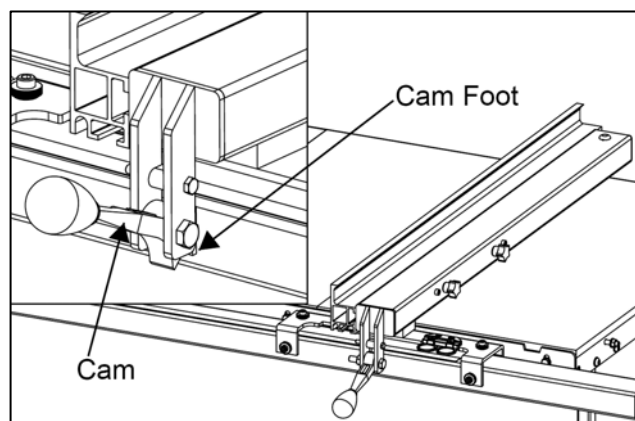

Fig. 10
2. Install the fence on the rail on the right hand side of the blade as shown in Fig. 10.
Make sure the cam foot contacts the cam on the fence lock handle before you place the fence on the rail, otherwise the fence can not be placed well (Fig. 10).
If you need to use the fence on the left side of the blade, remove the knobs (A), as shown in Fig.10, and move the fence plate and locking bar to the right side of the fence body, secure them on the left side of the fence body.